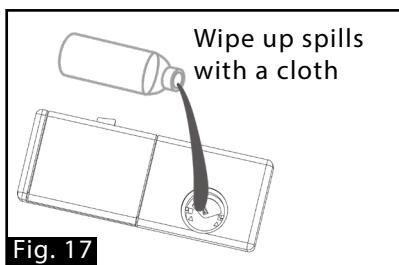

Fig. 17
1. Pour rinse aid into compartment (Fig. 17).